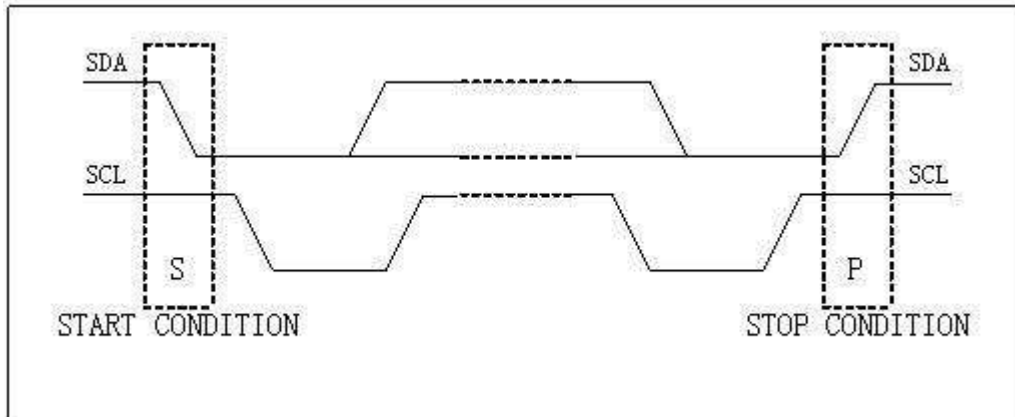

Figure 16 Start and Stop Conditions
Both SDA and SCL remain high when the bus is not busy. A high-to-low transition of SDA, while SCL is high, is defined as the START (S) condition. A low-to-high transition of the data line while SCL is high is defined as the STOP (P) condition (Figure 16).